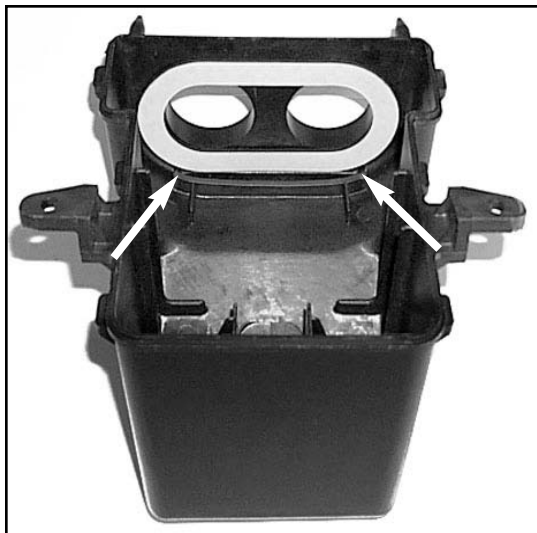

Fig. 1
3. Apply the supplied gasket around the intake opening. (Fig. 1)